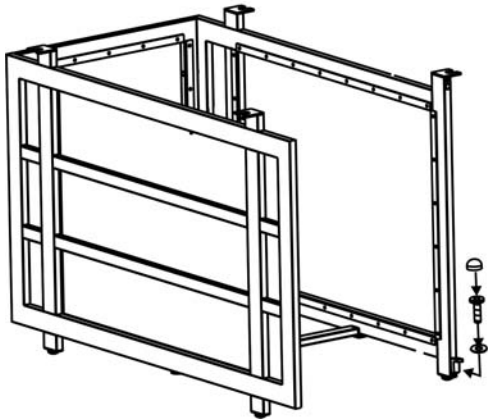
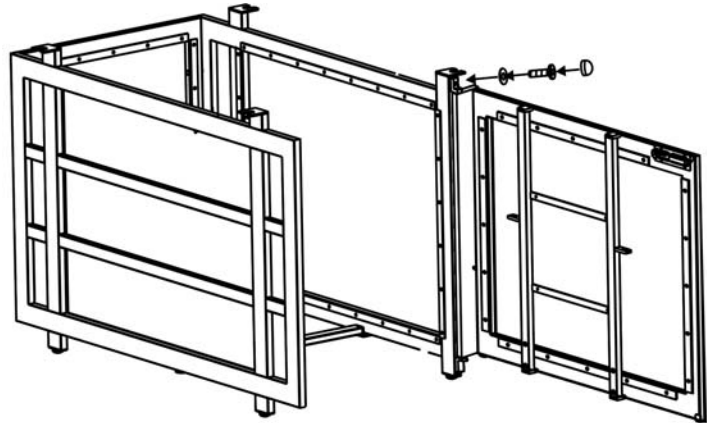

Figure 4a
Figure 4b
4. Attach a connector to side panel-1 by using a 1/4"x15 mm bolt and washer as shown in Figure 4a. Guide the bolt through the hole in the connector, into the pre-drilled hole in the side panel-1. Do not over tighten. Place the door onto the connector by guiding the pin in the connector into the hole under the door. Then guide the pin on the other connector into the hole in the top side of the door. Use a 1/4"x15 mm bolt and washer to secure the connector to side panel-1 as shown in Figure 4b. Do not over tighten.